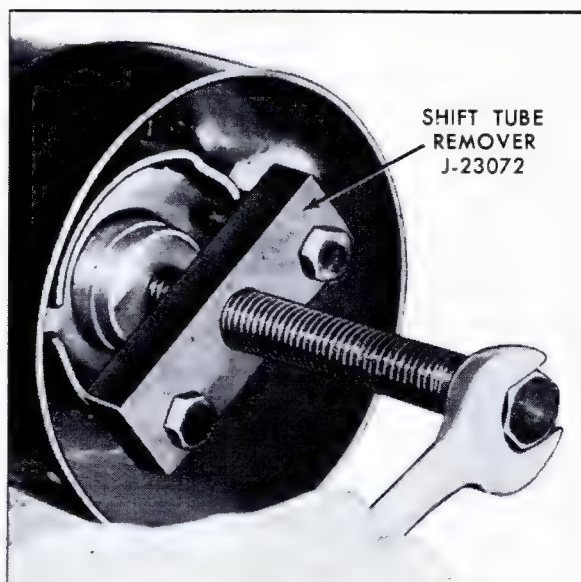

Fig. 9-54 Removing Shift Tube
5. Secure Shift Tube Remover, J-23072, to lock plate and remove shift tube from column, Fig. 9-54.